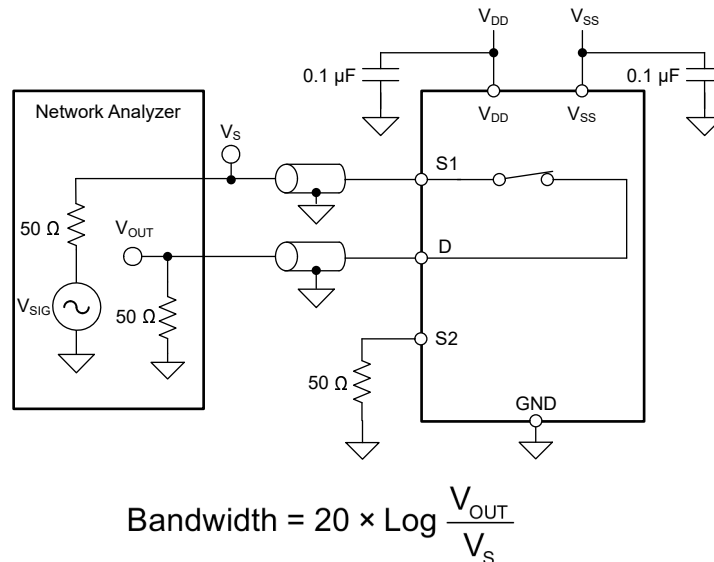

Figure 6-12. Bandwidth Measurement Setup
Bandwidth is defined as the range of frequencies that are attenuated by less than 3 dB when the input is applied to the source pin (Sx) of an on-channel, and the output is measured at the drain pin (D) of the device. Figure 6-12 shows the setup used to measure bandwidth.